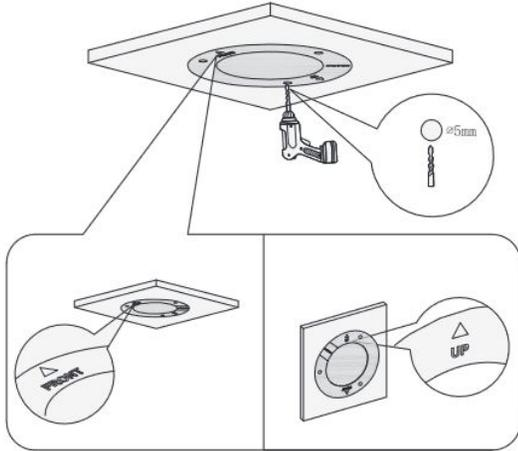

Figure 2-1
**Step 1** Use the included position map and drill the appropriate mounting holes and cable exit, if necessary. Keep in mind to line up the locking tabs on the base for disassembly. See Figure 2-1